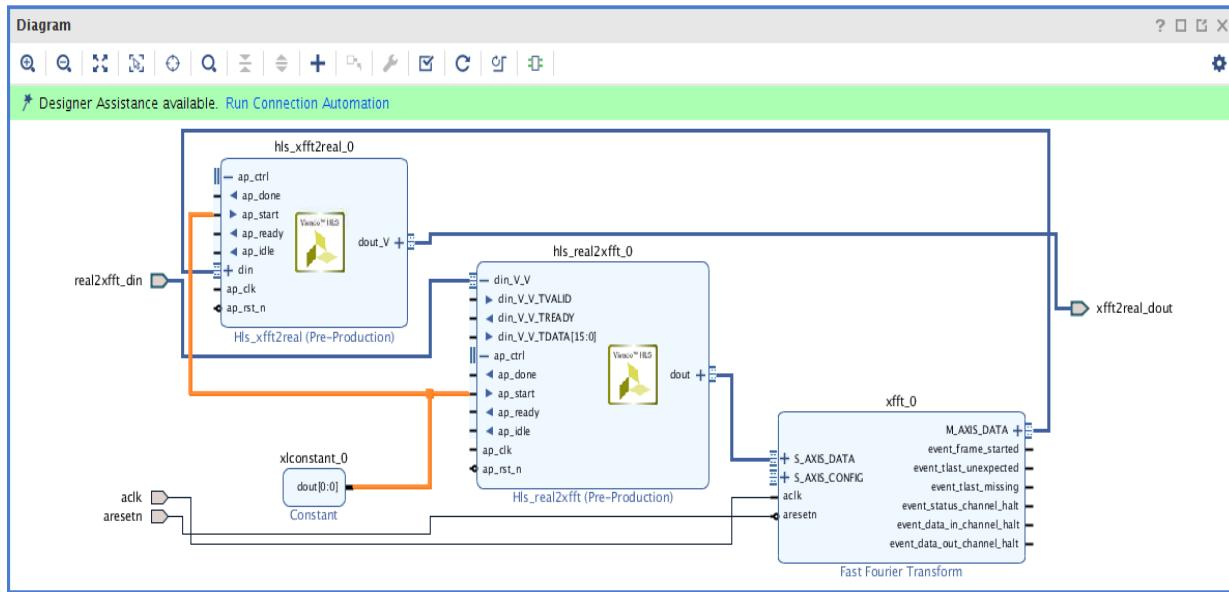

Figure 9-22: **Connect AP_START to Constant**
g. Connect `ap_start` in both HLS blocks to the Constant block (Figure 9-22).